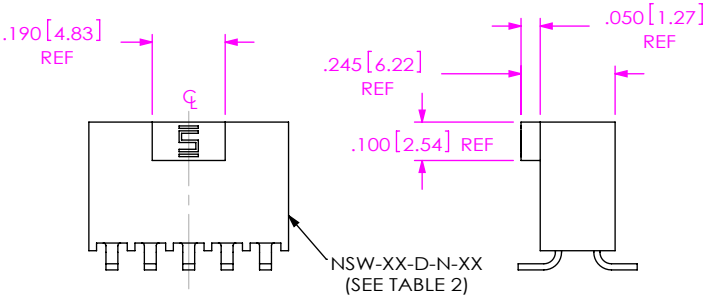

FIG 7
- N: NOTCH (SEE FIG 7, SHT 4, POSITIONS 05, 07, 08, 10, 12, 13, 15, 17, 20, 25, 32, 36 ONLY)